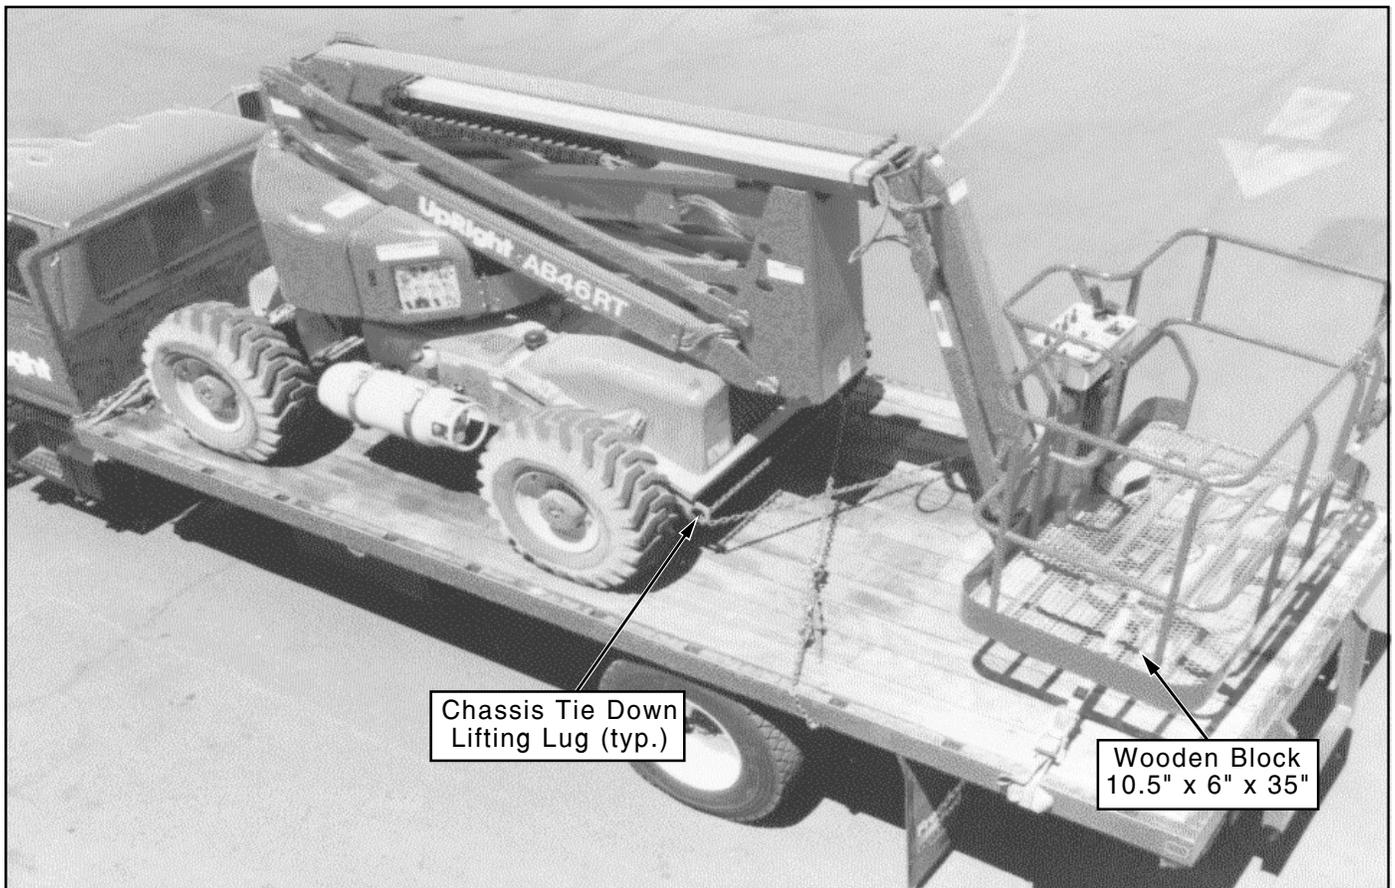

Figure 7: Securing the Machine for Transportation
5. Secure the machine to the transport vehicle using chains / straps of adequate load capacity (refer to specifications, back page) attached to chassis tie down lugs (see figure 7).
6. Place a wooden block (10.5" x 6" x 35") under platform support braces as shown (see figure 7).
7. Attach ratchet strap; under platform floor grating, over support braces (see figure 7). Tighten securely, do not overtighten.